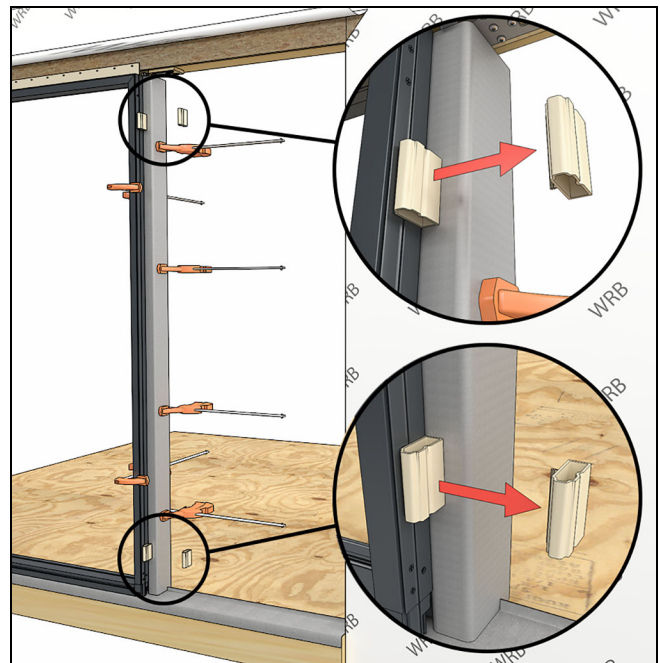
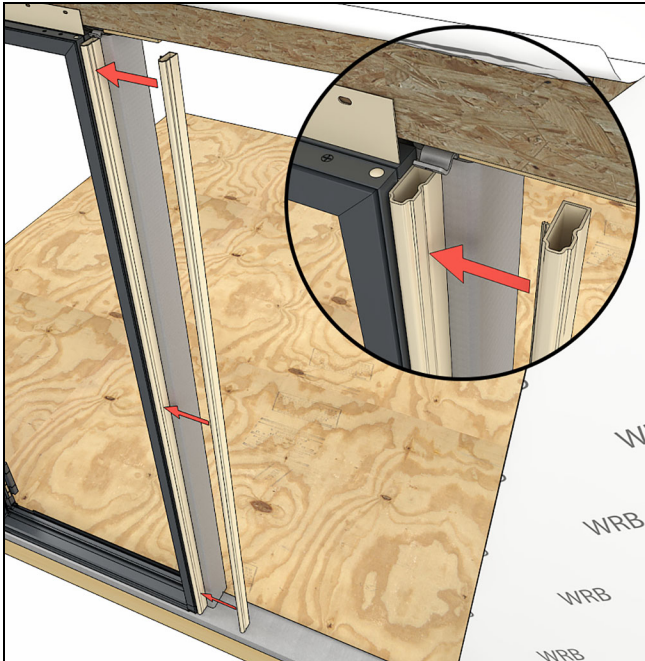

Figure 232
Figure 233
14. Remove the temporary mull filler blocks and replace with a full length block. See Figure 232 and Figure 233.